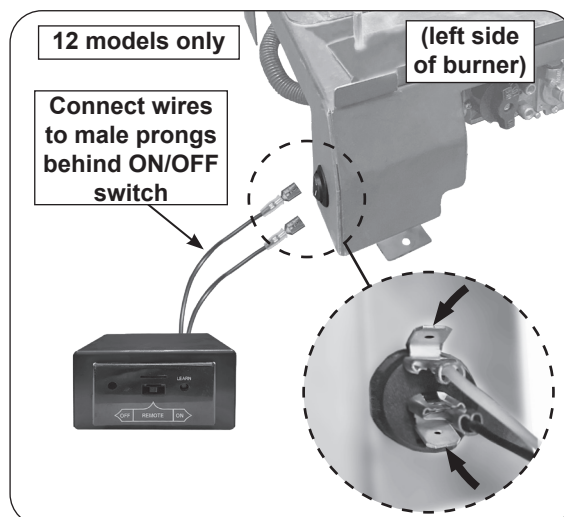

Fig. 20-2 Connect remote receiver
2. Locate the wires coming off of the remote receiver, and connect them to the two male prongs found behind the ON/OFF switch that is located on the left side of the burner assembly. (see Fig. 20-2).